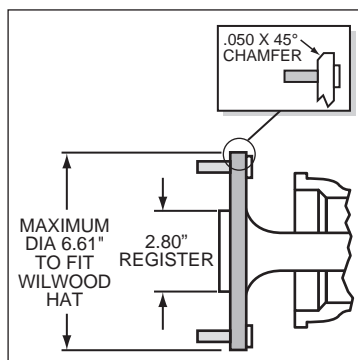

Figure 3. Axle Flange Maximum Dimension
- Axle center register diameter is 2.80", Figure 3. This kit uses Wilwood's removable center register adapters. Rotors can either be centered on the axle register, i.e. *register-centric* or centered on the wheel studs, i.e. *stud-centric*. Due to variations in wheel stud final diameters, *register-centric* centering can be a more accurate method of centering the rotor to the axle. Wilwood offers various diameter adapters for purchase in addition to the ones supplied in this kit, see Table 1.
- Maximum axle flange diameter must be no larger than 6.61" w/.050" x 45° chamfer (see Figure 3).